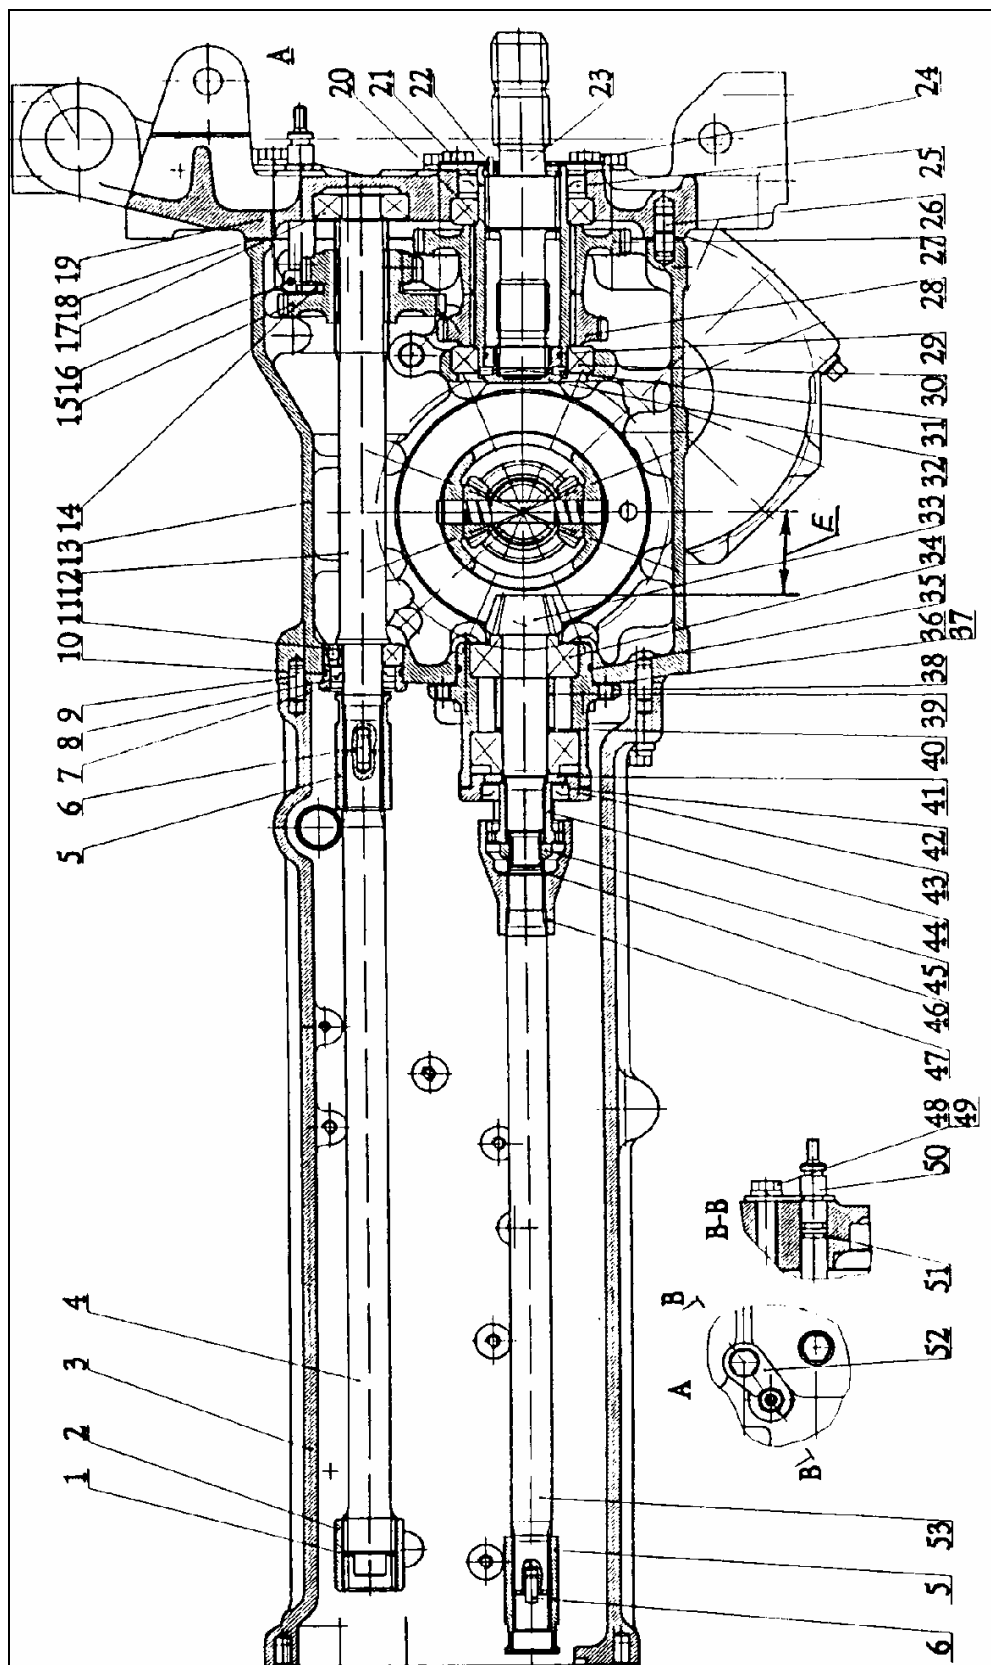
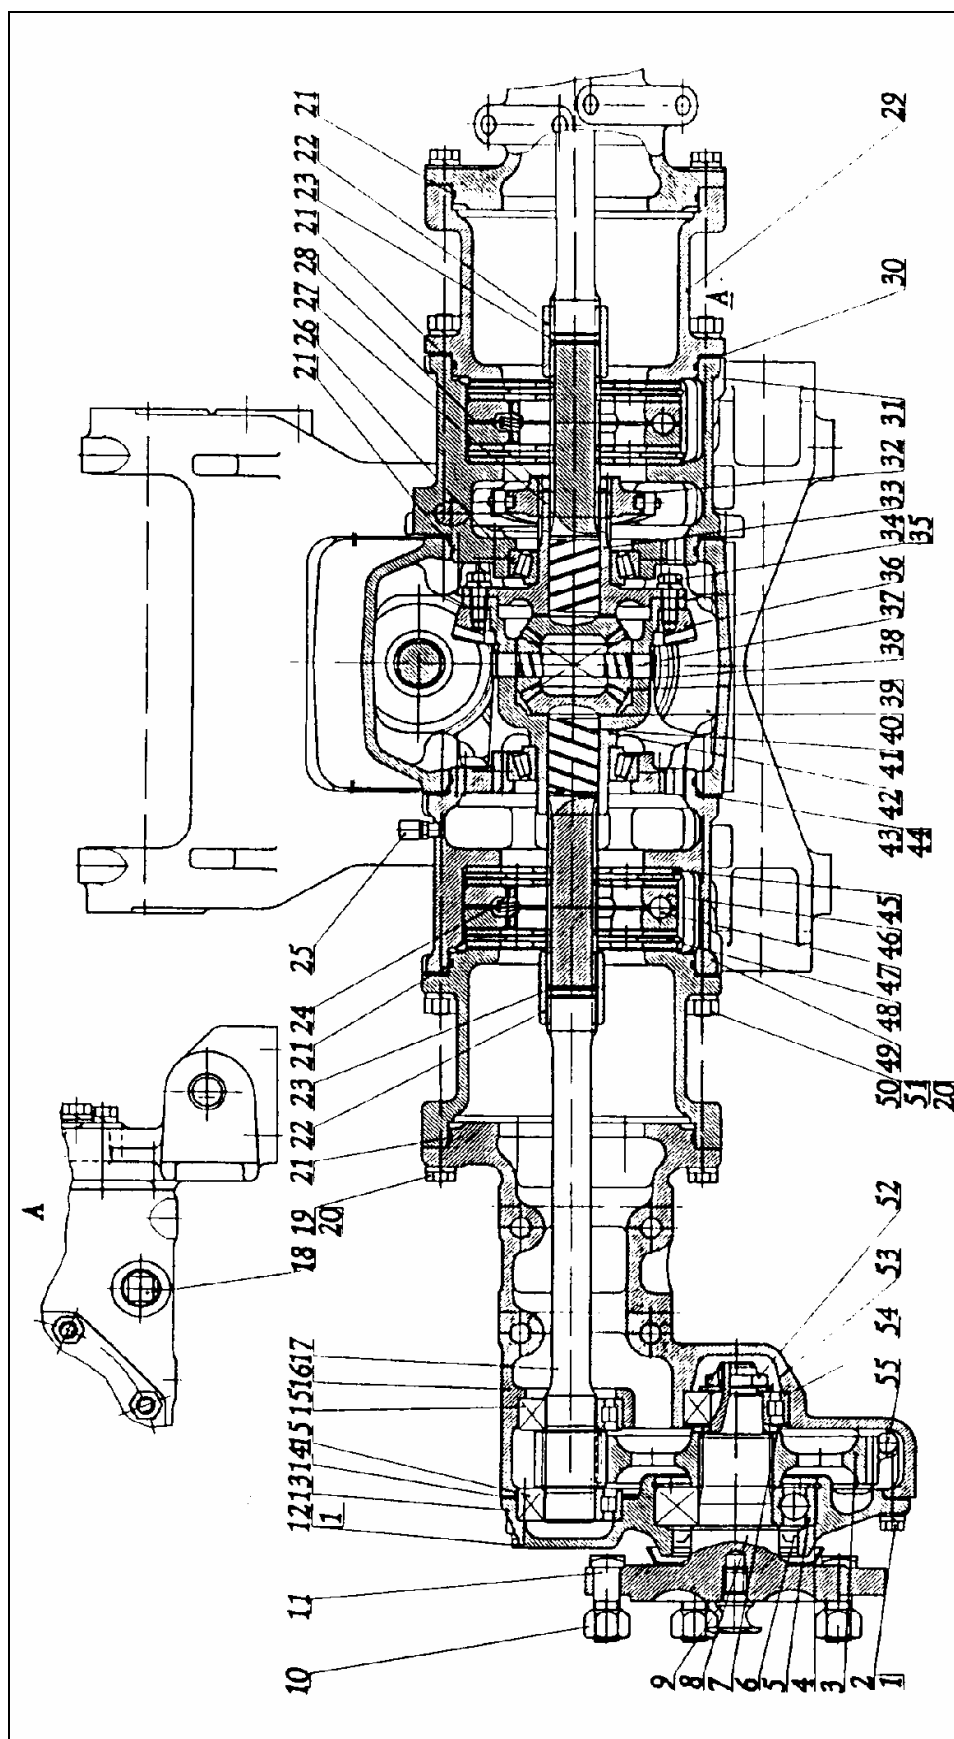

Fig. F-23 Rear axle – longitudinal section
Fig. F-24 Rear axle – cross-section (description)
9. REAR DRIVE AXLE (Fig. F-23, F-24)
The unit transmits torque from the gearbox to the rear axle differential gear. The unit consists of sleeve 5 (Fig. F-23), shaft 53, tooth clutch 47, toothed sleeve 44, pinion 33 supported with conical bearings 34 and crown wheel 36 (Fig. F-24) fixed with screws 34 to the differential gear body.
Side play between teeth in the main transmission gear should amount to 0,08...0,22 mm, and the tooth mesh surface should be not less than 50%. Point of teeth contact should be situated in the central part of a tooth or closer to the upper part of the cone. Play adjustment is realised by moving part of washers 33,34 (Fig. F-24) from under the body flange of the left brake 31 under the body flange 49 of the right brake without changing total number of washers.